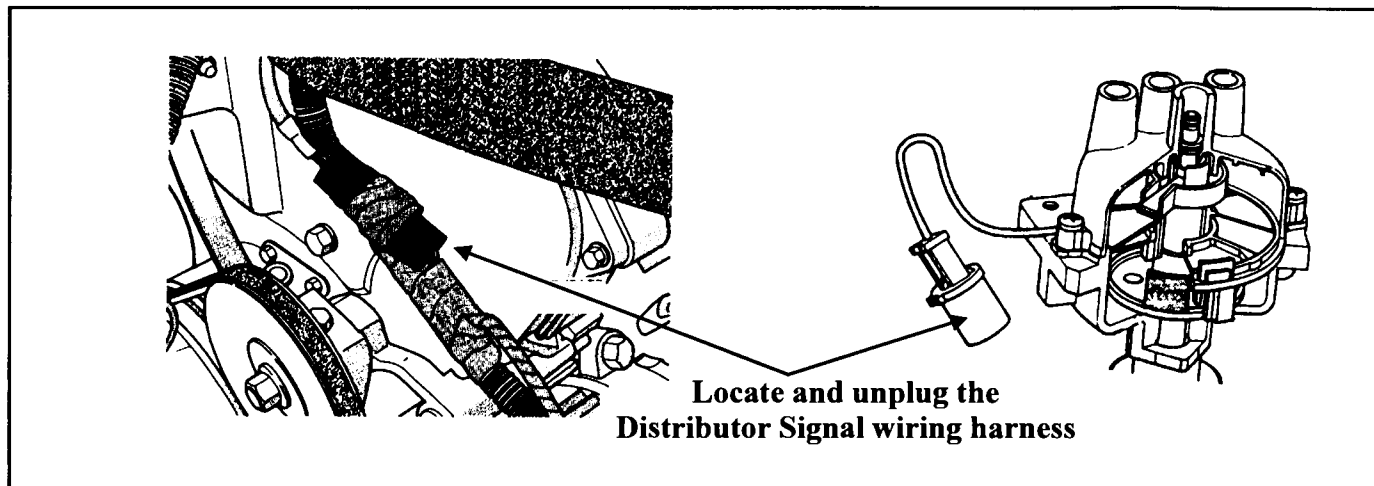
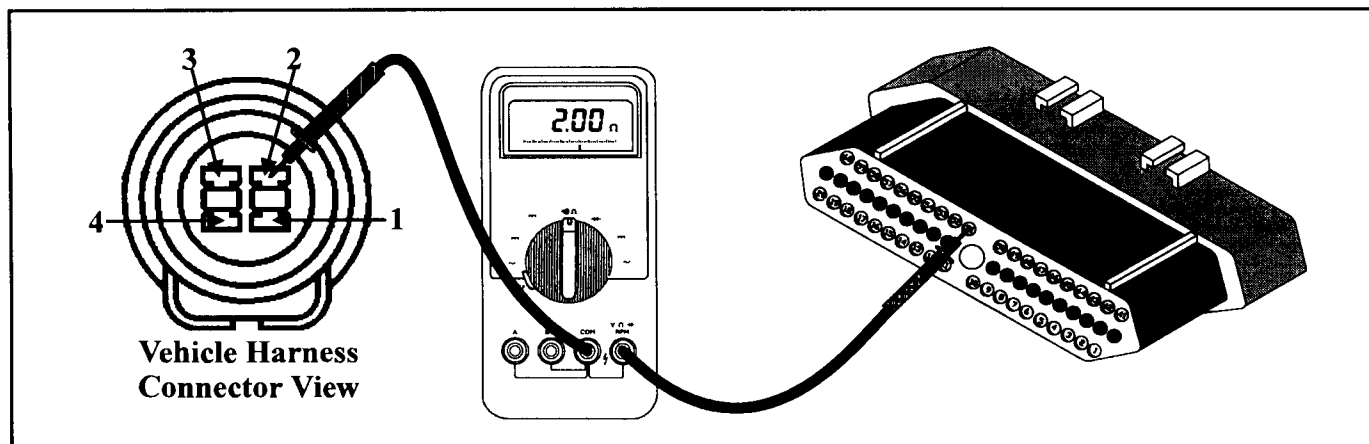

Figure 23
Figure 24
- Go to the distributor and locate a wiring harness coming out from the bottom of the distributor. Trace the harness downstream away from the distributor until you locate the round 4 wire plug as shown in Figure 23. Unplug this 4 way connector and the TCM connector. Perform a continuity check across terminal 2 in the distributor vehicle harness connector to the number 51 wire in the TCM connector as indicated in Figure 24. If there is no continuity, repair or replace the wire. If continuity is seen, go to the next step.